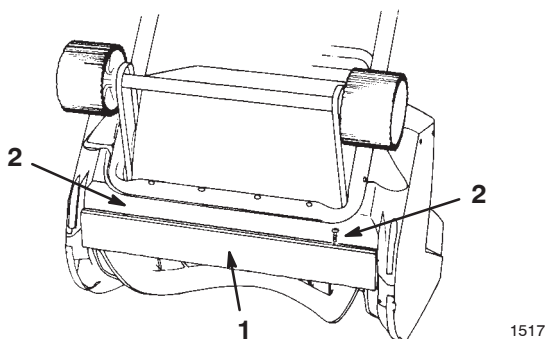

Figure 12
The scraper is located at the bottom of the rotor housing as shown in Figure 12.
1. Remove the 2 screws that secure the scraper to the snowthrower (Fig. 12).